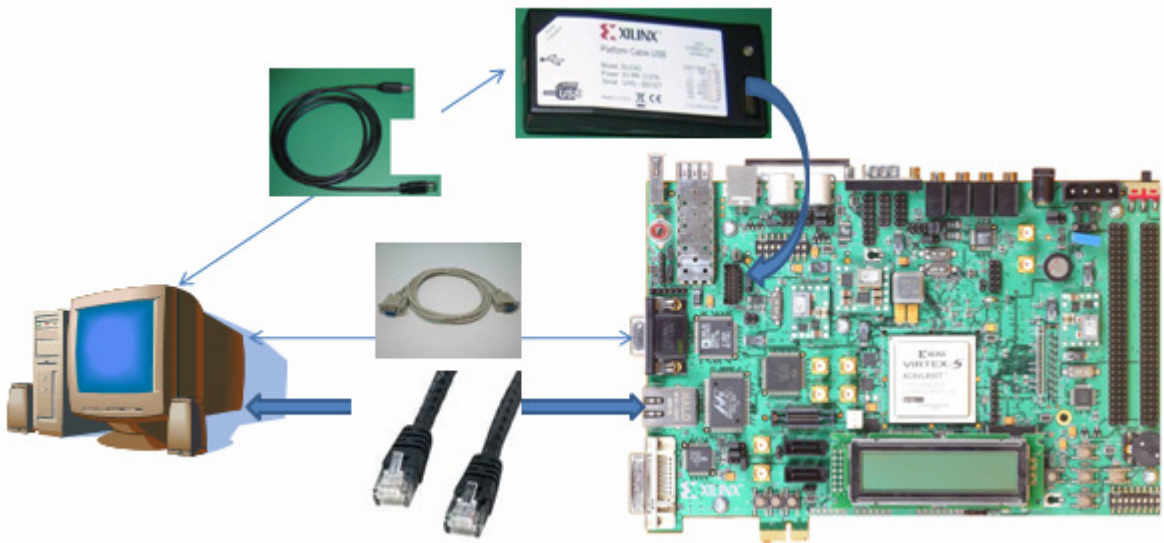

Figure 1: Demo design operation environment
This demo design is based on the following environment as shown in Figure1.
1. Connection of PC and FPGA evaluation board. (Refer Figure 1)